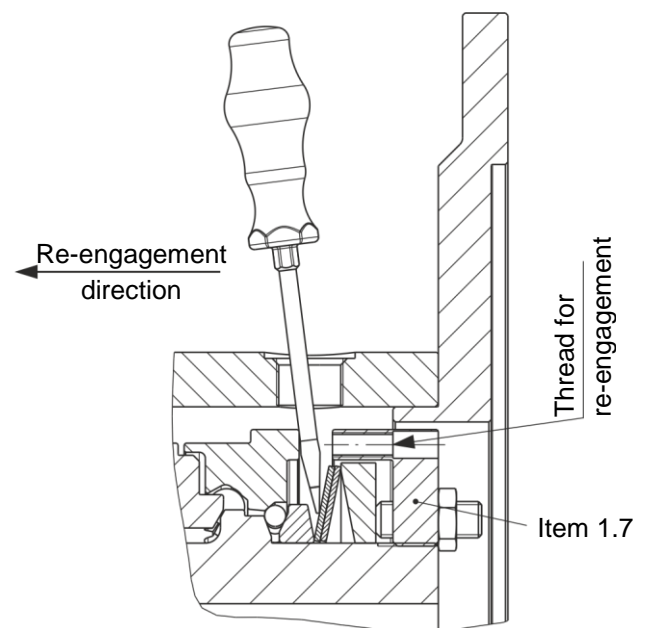

Fig. 5
Re-engagement (Fig. 5)
There are two bores (180° offset to one another) for manual clutch re-engagement. They are locked with screw plugs (13). In order to re-engage the clutch, at least one of the two screw plugs (13), including its O-ring (14), must be loosened and removed. EAS®-Compact® overload clutch re-engagement is carried out by applying axial pressure to the thrust washer (1.3) in the direction of the output (flange Y) using a suitable lever tool (Fig. 5). It may be necessary to turn slightly between the pressure flange (1.2) and the thrust washer (1.3).
For high torque ranges (Types 490.7_... and 490.8_...), engagement using a lever tool is no longer easily possible. Alternatively, re-engagement can take place by evenly screwing three screws M8 (not included in the standard scope of delivery) into the adjusting nut (Item 1.7 / Fig. 5). On this variant, it may be necessary to turn slightly between the pressure flange (1.2) and the thrust washer (1.3).